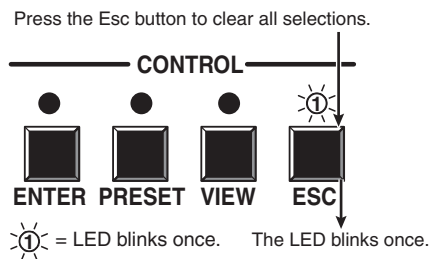

Figure 3-50 — Clear all selections
1. Press and release the Esc button (figure 3-50).